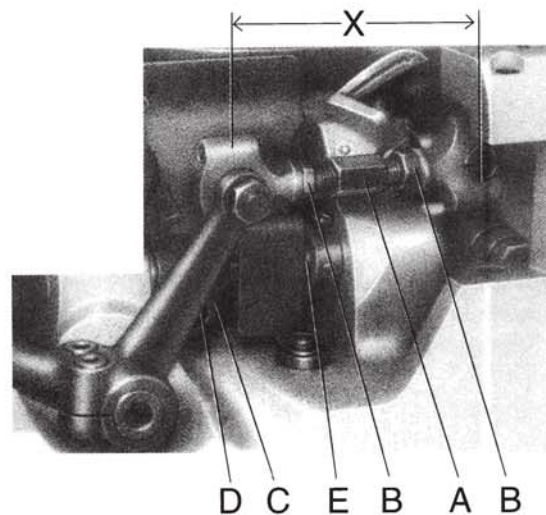
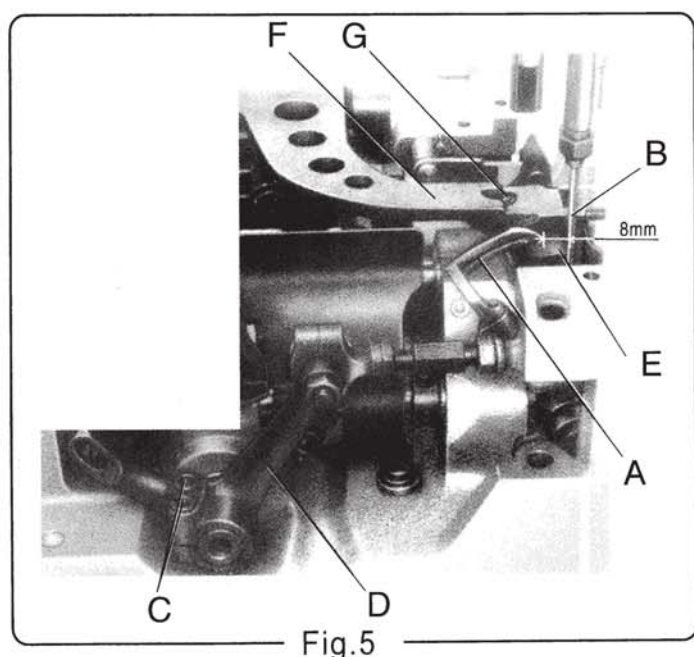
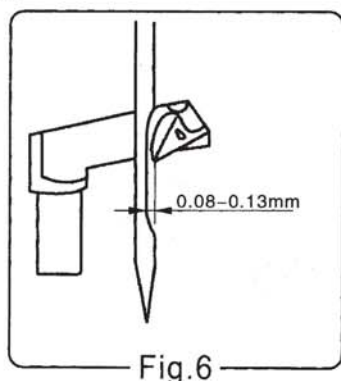
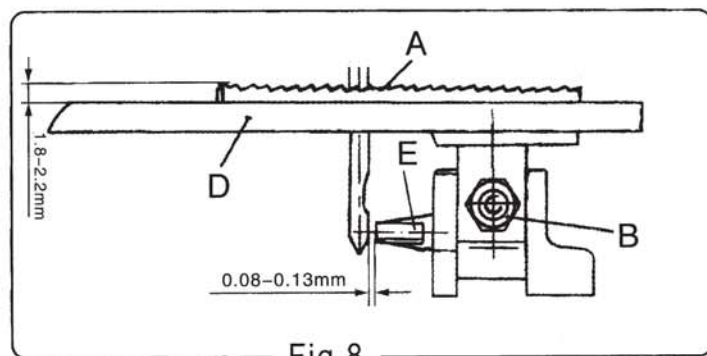

Fig.4
Fig.5
Fig.6
Fig.8
- a. First set the looper connecting rod A(Fig.4), so the distance X (Fig.4) between the centre lines of the two ball joints is 69.8mm. For adjustment, loosen the two nuts B and turn connecting rod A forward or backward as required to obtain specified dimension. Retighten nuts B.
- b. Rotate the machine pulley clockwise by hand, so that the needle bar moves to the lowest point, at the same time the looper moves back to its farthest position to the right. The distance from the point of the looper A (Fig.5) to the centreline of the needle is 8mm. For adjustment, loosen two screws C in the looper drive lever, rotate looper drive lever D left or right as required to obtain specified dimension and retighten screws C.
- c. Rotate the machine pulley so that the looper A(Fig.5) moves from right to left. The looper point should pass close as possible as the back of the needle without contacting, about 0.08~0.13mm (Fig.6) clearance. For adjustment, loosen screw D(Fig.4) in the looper eccentric fork C and turn rocker shaft E on the looper rocker with the looper forward or backward as required. Retighten screw D.
The needle guard E(Fig.8) will protect the needle and prevent it from bending or breaking when the needle goes down. The clearance between the needle and the needle guard is 0.08mm~0.13mm(Fig.8).For adjustment, rotating pulley in the direction of operating, so that the needle guard moves against the needle. Loosen set screw G on feed dog holder (Fig.5), move the needle guard accordingly. Retighten screw G.
The height of the feed dog A (Fig.8) is determined by the quality and the thickness of the sewing materials. For closing thin material such as bags made of cloth and plastic, teeth surface should project 1.8mm above the throat plate D top surface, and for sacks about 2.2mm above the throat plate. For setting, move the feed dog to the highest position, loosen nut B and adjust feed dog by raising or lowering it. Retighten nut B.